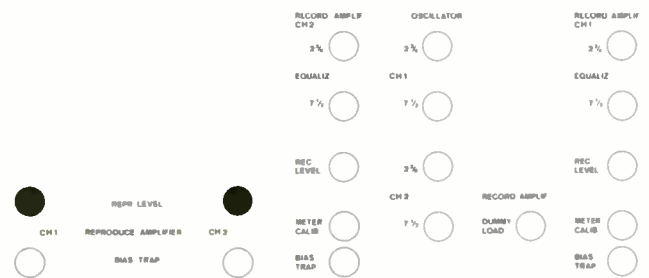

Fig. 6.3-57
- Set output voltage 2 V with trimpot REPR LEVEL CH1 (fig. 6.3-57).